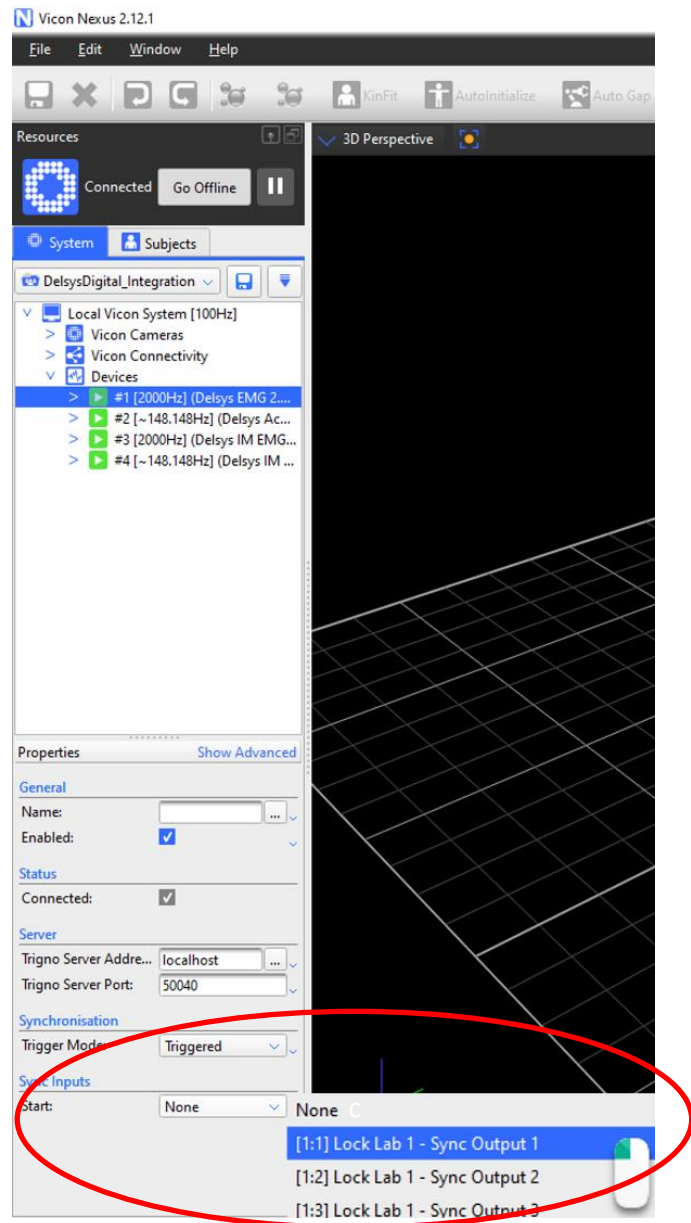

Figure 9: Available GPO Sync Ports on the Lock+/Lab unit.
6. Navigate to the Sync Inputs section and in the Start drop down menu select the GPO port connected to the Delsys Trigger Module (Figure 9).